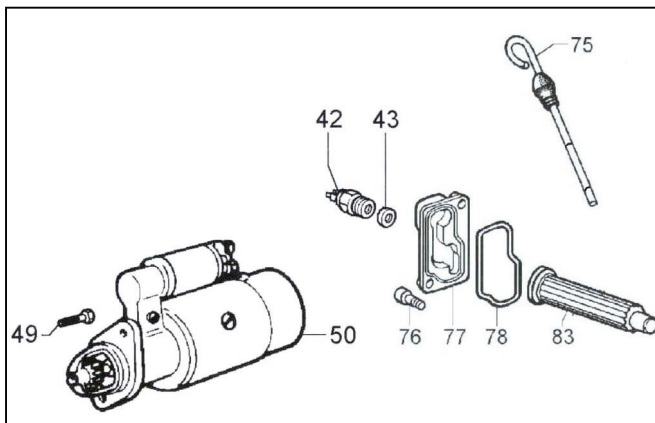

Figure 18
8.5.4 Oil Filter Cartridge (figure 18, #83)
1. Loosen and remove the two cover screws (figure 18, #76) that hold the oil filter cartridge cover (figure 18, #77) to the engine.
2. Remove the cover (figure 18, #77) and gasket (figure 18, #78).
3. Pull the oil filter cartridge (figure 18, #83) out of the engine and clean. **The oil filter can be washed with diesel fuel and re-used up to three times before replacement.**